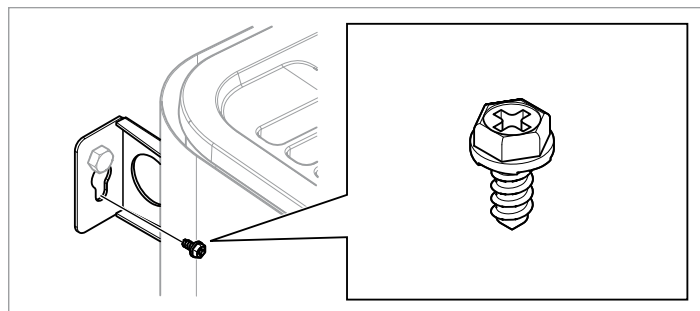

Figure 11: Lock screw for bracket
9. Lock the heater into place with the lock screw see Figure 11, Page 7.